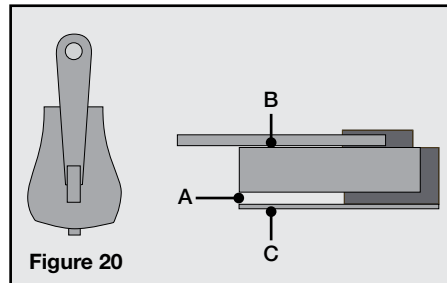

Figure 20
- The most common reason why zips burst open is that the zip slider does not close the coil tightly enough. Wear and tear may cause the gap marked A to open up, as indicated in Figure 20.
- By simply “crimping” the slider together at points B & C with a pair of pliers, this solves the problem most of the time. Crimping in other planes is worth a try if B & C does not work. This is to be done when the zip slider is still attached to the zip in the open position, as indicated in Figure 20.